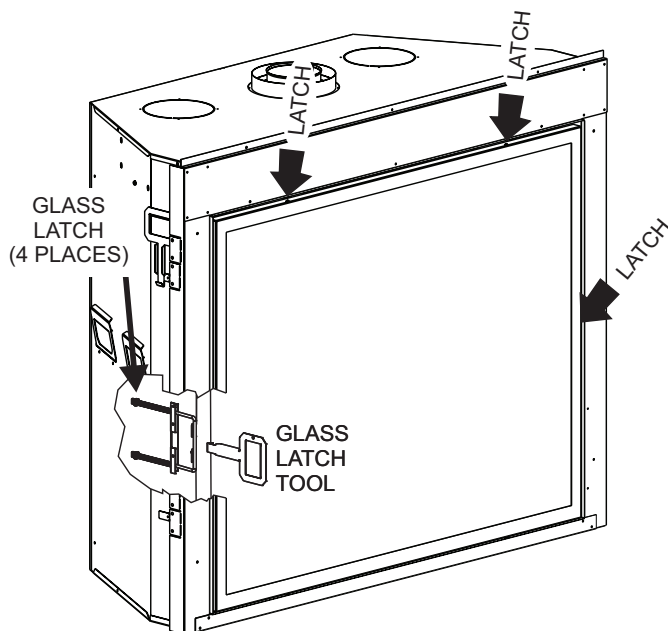

Figure 31
- Check all latches or other door retention components for proper operation, tension, and relief mechanisms are free from obstructions. **See Figure 31.**